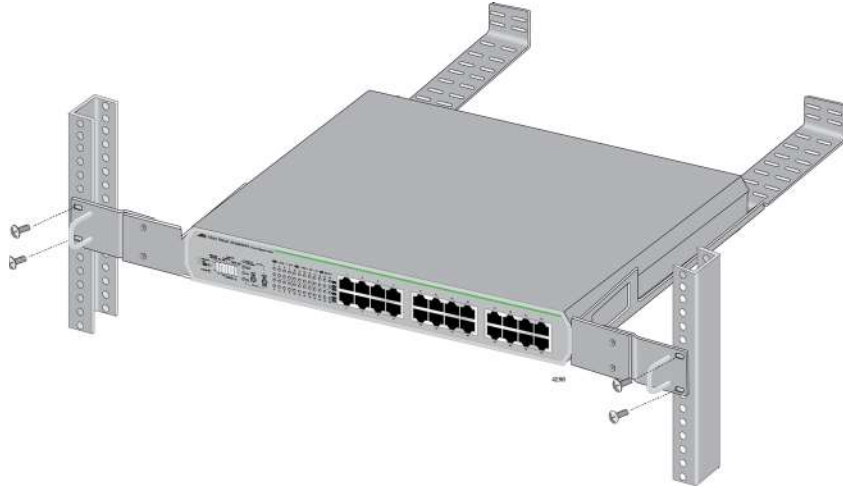

Figure 28. Attaching the Switch to Equipment Rack
8. Mount the switch in a standard 19-inch equipment rack with four equipment rack screws as shown in Figure 28 on page 56.